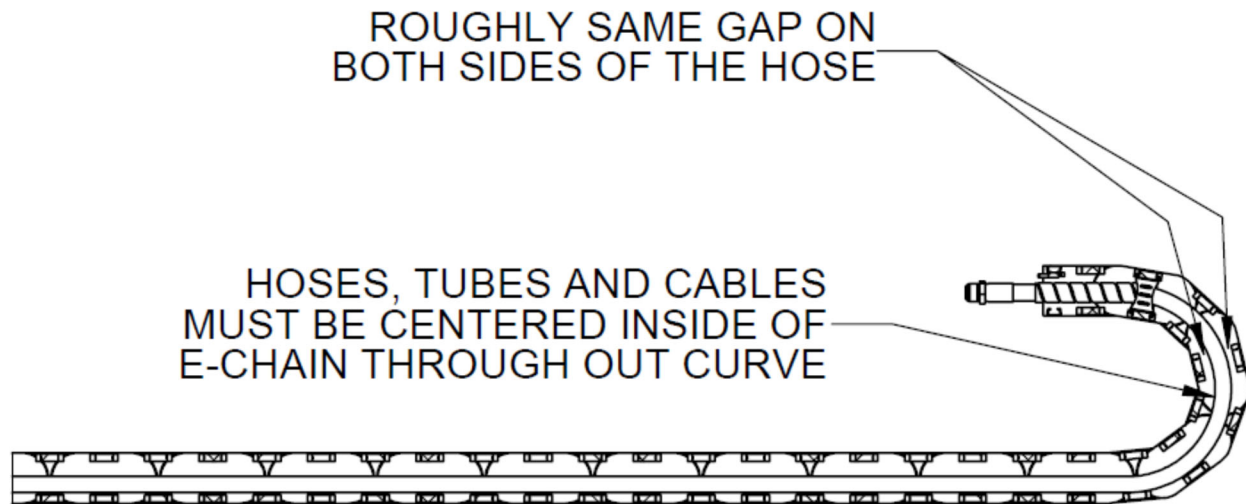

Figure 77 - Proper Loading of E-chain
- It is important to position and secure the high pressure hose into the correct position within the e-chain. The hose should always travel in the middle of the e-chain at the e-chain curve (see Figure 77). The hose should not be pushed tight against the e-chain cross bars on the outside. The hose should also not be pulled tight against the cross bars on the inside of the e-chain.
- Adjust all the other cables, tubes, and hoses inside the e-chain. Push or pull each line at the moving end of the e-chain. It is important that all the lines throughout the e-chain are located in the middle of the e-chain through the curve (see Figure 77). All lines should be relaxed and not twisted relative to each other.